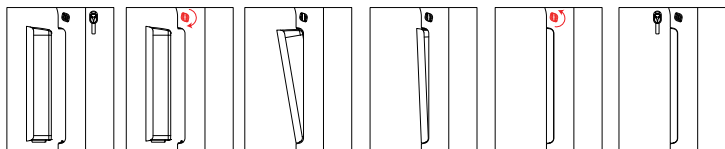

Figure 5
Step 2: Use the key to unlock the battery (see Fig. 5). Insert the key into the battery lock hole and turn the key clockwise (about 170°) until you hear a click and the battery pops out. Continue to turn the key until you hear another click, which means the battery is fully released and can be taken out.